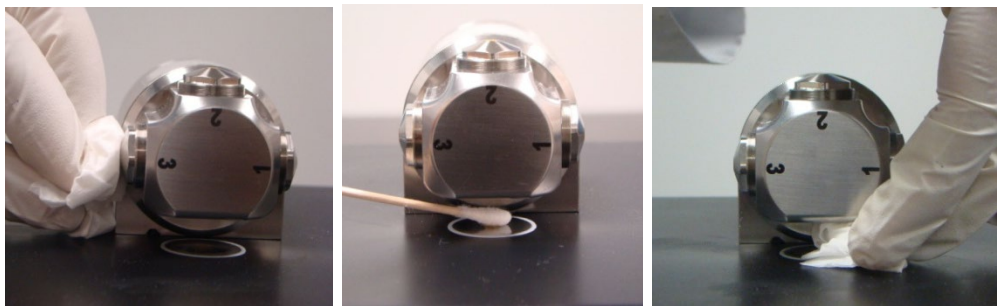

Figure 15. Cleaning the DialPath Position 3 window (left) and cleaning the sample mounting area.
- 2 Clean the window of the position last used for analysis, using a cotton swab dipped in acetone (see Figure 15, which shows cleaning Position 3).
- 3 Clean the bottom sample mounting area (see Figure 15).